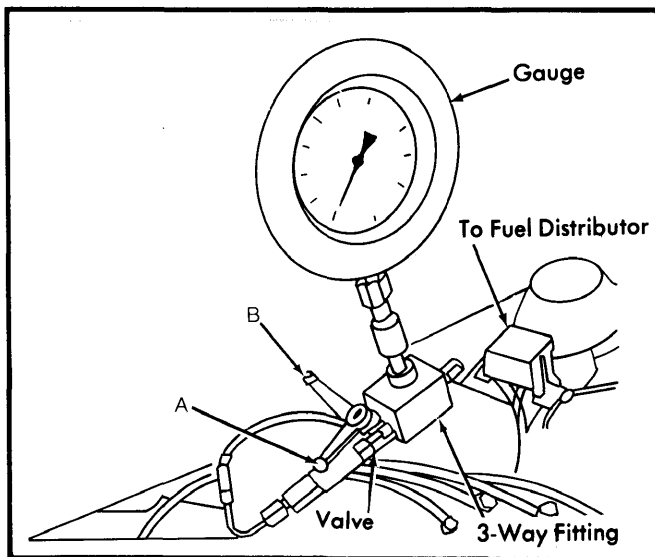

Fig. 3 Connecting Fuel Pressure Gauge and Valve To Test Control Pressure
2) Valve assembly should be on control pressure regulator side of gauge. See Fig. 3.
1) Be sure to connect control pressure regulator electrical plug, previously removed. OPEN valve. See Fig. 3.
- 2) CLOSE valve (Fig. 3). Start engine and run at idle.